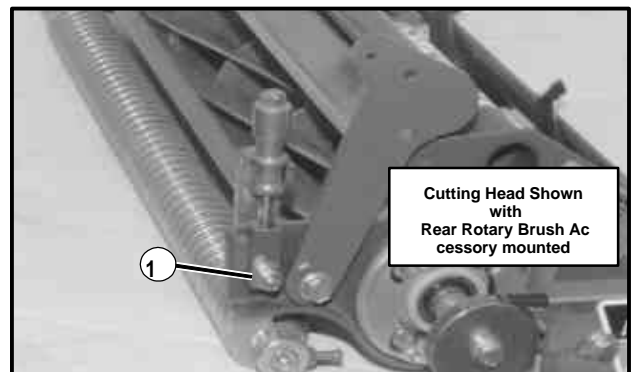

Figure 15
- Loosen the locking nut on one of the front roller adjusting brackets just enough to allow adjustment (See Fig. 15).